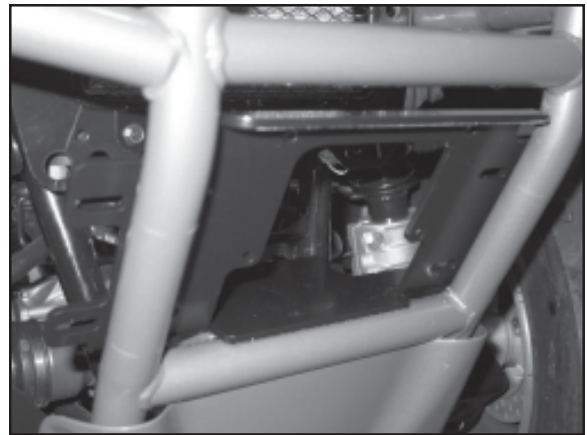

Figure 4 Place Mounting Plate
2. Place Winch mounting plate (A1) into position and fasten the two bent down tabs to the ATV frame using the two 8mm bolts removed in step one, see figure 4, and figure 5. Do not tighten fully at this time.